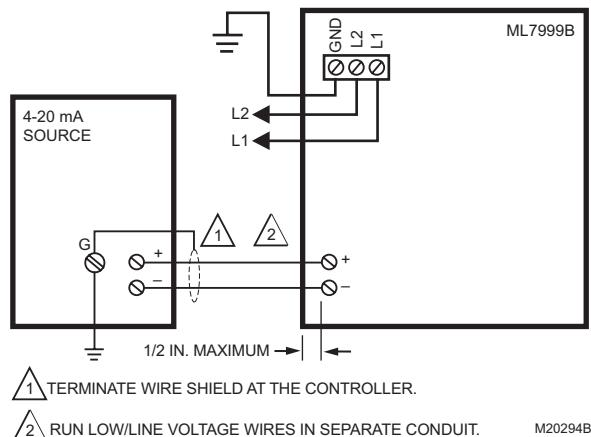

Fig. 7. Typical ML7999B wiring.
5. Wire the line-voltage circuit. See Fig. 7 for typical wiring connections.